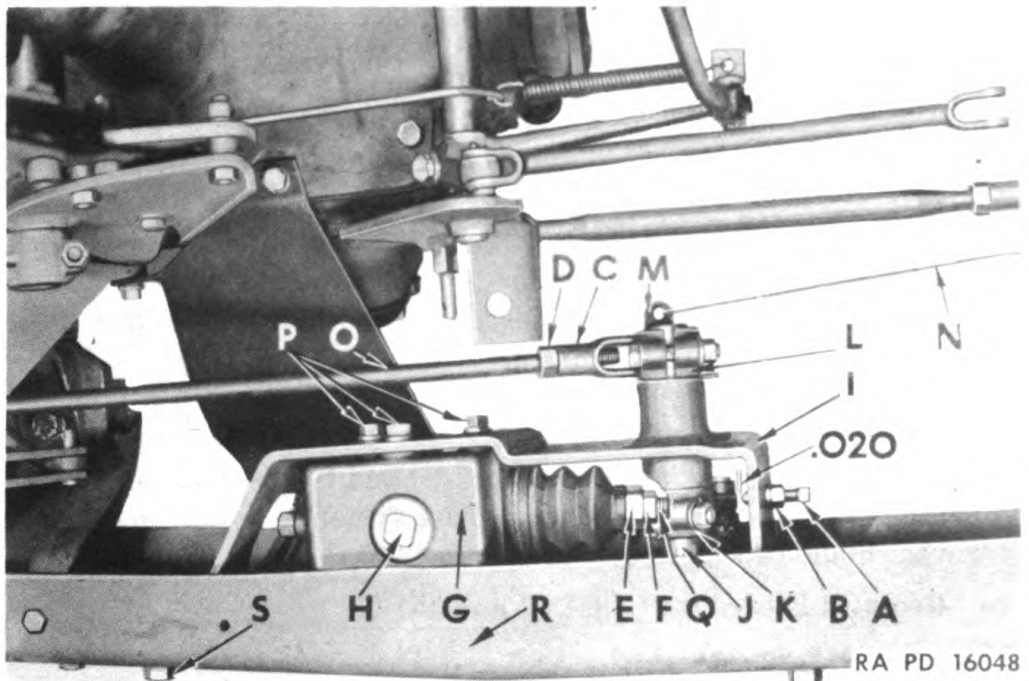

Figure 68—Brake Master Cylinder Mounting Brackets and Linkage Assembly
b. Removal Procedure (Fig. 68)**(1) Remove left-hand floor board**
c. Installation Procedure (Fig. 68)**(1) Install master cylinder and brackets**
Loosen push rod to yoke lock nut. Turn push rod (Fig. 68) until end of rod just contacts piston when in released position. Piston is fully released when rear end contacts stop plate at rear end of master cylinder barrel. If piston is not allowed to return to fully released position, piston cup will cover fluid by-pass hole in master cylinder, thereby preventing fluid entering master cylinder barrel on return stroke.
(4) Measure stop screw to shaft inner lever clearance (Fig. 68)
TRUCK, AMPHIBIAN, 2 1/2-TON, 6 x 6**(5) Adjust pedal pull rod length (Fig. 68)**